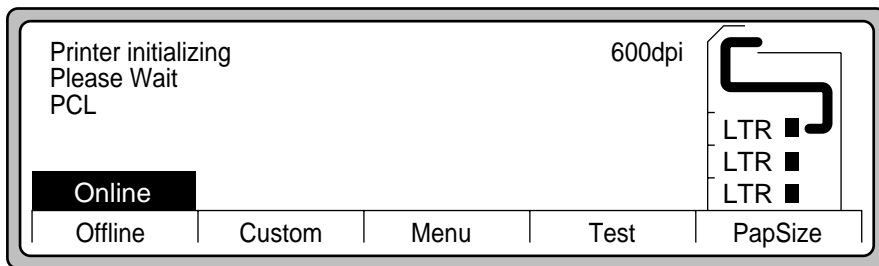

Figure 2-78 Printer Initializing
11. When the new function code has finished resetting the controller, you will see the display shown in Figure 2-78.